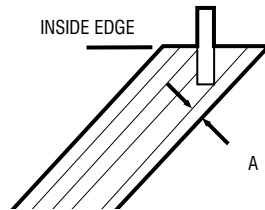

FIG 26
- Clamp the workpiece and align the tool as shown in column in Figure 26.